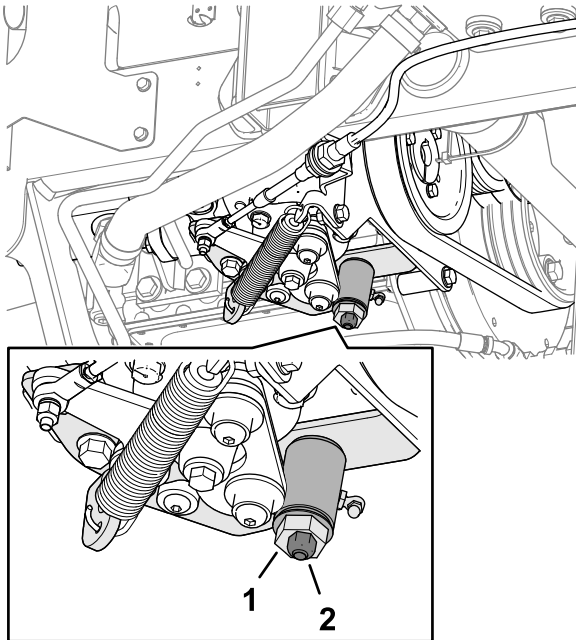

Figure 74
3. Loosen the locknut on the traction adjustment cam (Figure 74).